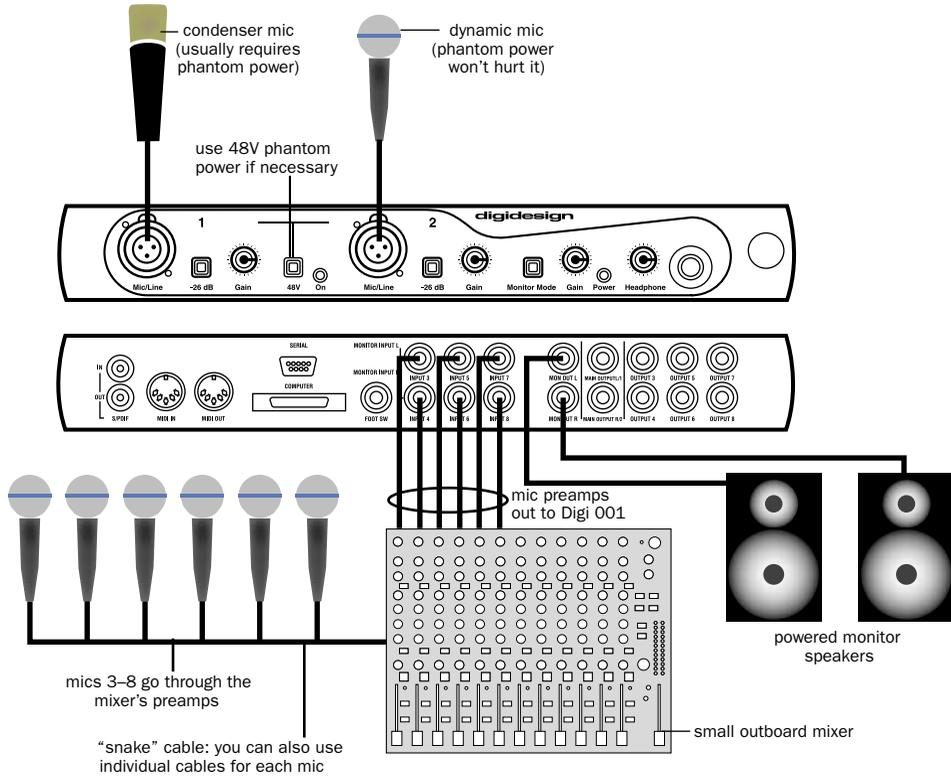

Figure 10. Connecting several microphones to a Digi 001
- Plug a microphone directly into Mic/Line Input 1 or 2 on the front of the Digi 001 I/O (see Figure 10 on page 36). These inputs accept XLR connectors or 1/4" TRS connectors. If your microphone requires phantom power, press the Phantom Power switch (labeled 48V).